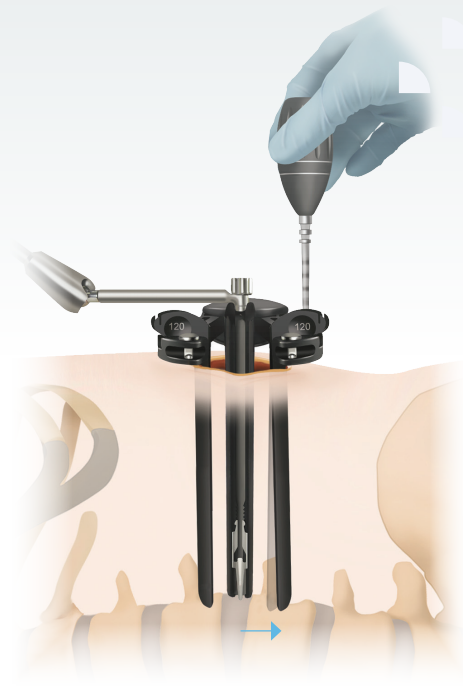

Figure 26
- Toeing of the cranial/caudal blades may be accomplished using the posterior handle (**Figure 26**).